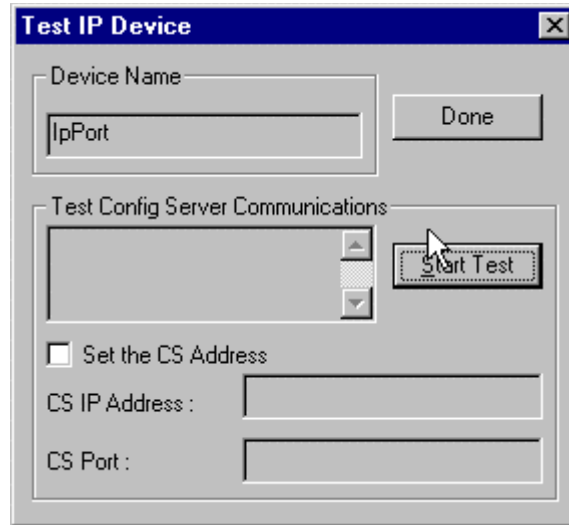

Figure 7-8 Test IP Device Dialog
15. LONWORKS/IP devices on PCs running LNS 3.01 or later only respond to Configuration Server setup messages when the LONWORKS/IP device is open. To force a LONWORKS/IP device to open, open the LONWORKS/IP Channels control panel and click the **Test** button as shown in Figure 7-8.